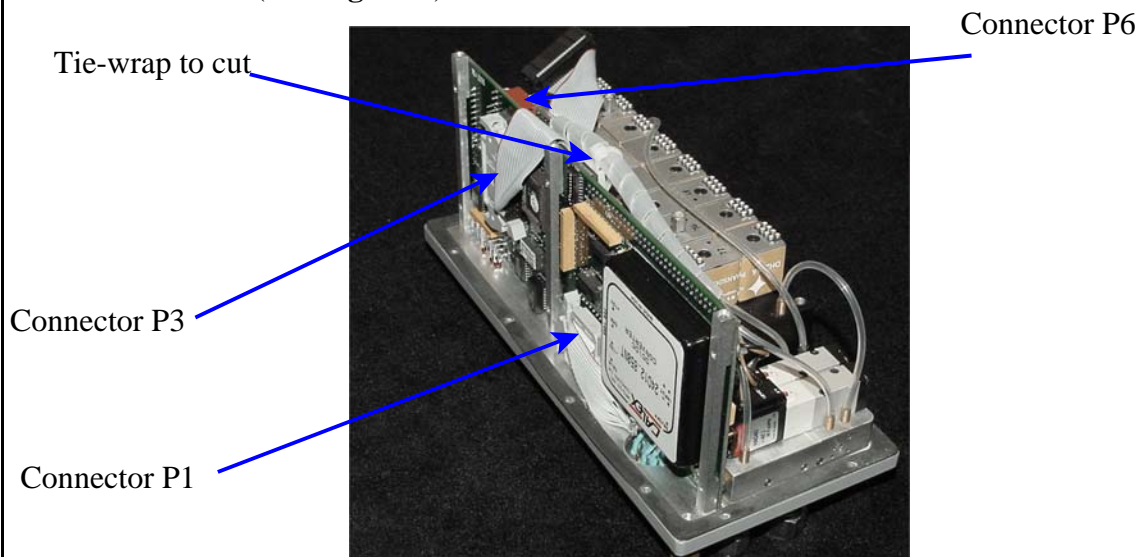

Figure 6
- (1) Carefully remove any attached wiring harnesses from connectors P1, P3, and P6 of the PC-280 board. This will require cutting one nylon tie-wrap attached to the center mounting bracket. (See **Figure 6**)